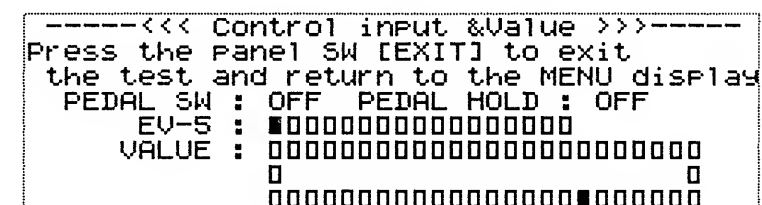

Fig.16
2. The LCD shown in figure 16 will appear.